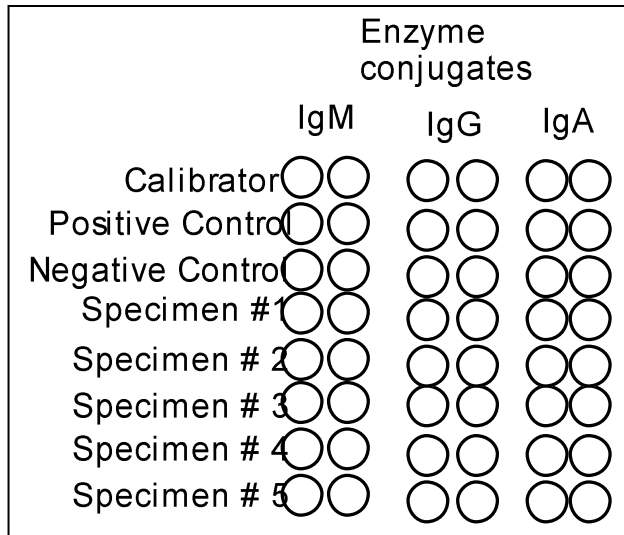

Fig. 1. Arrangement of Calibrator(s), Positive Control, Negative Control, and Specimens
3. Select the appropriate plate format; mark the position of the samples (i.e., Calibrator(s), Positive Control, Negative Control, and Specimens) on a worksheet. See **suggested plate layouts in the Data Sheet and Fig. 1.**